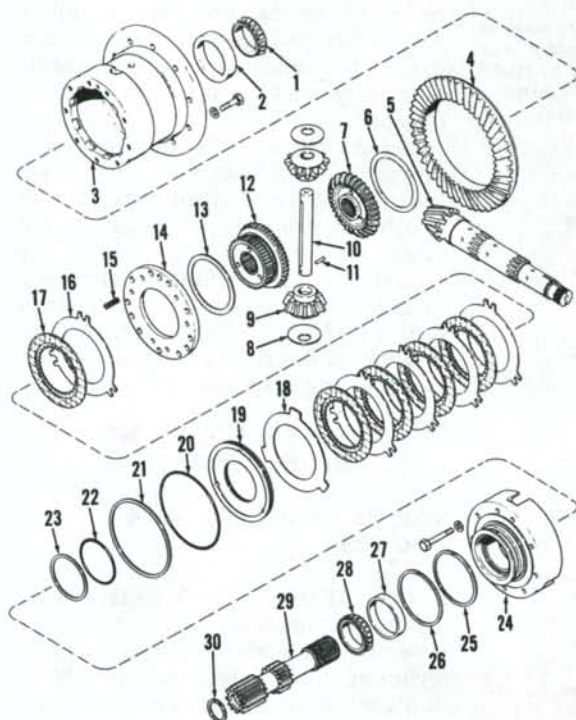

Fig. 188—Exploded view of typical differential and lock clutch assembly used on Models 2090, 2290, 2094 and 2294.
169. OVERHAUL. Remove differential as outlined in paragraph 168. Place assembly on a bench and refer to Fig. 188 as a guide to disassembly. Keep shims with bearing carriers from which they were removed. Shims are available in thicknesses of 0.003, 0.007, 0.010 and 0.020 inch (0.08, 0.18, 0.25 and 0.508 mm) for bearing preload adjustment. Put identification mark on pinion pin (10) and ring gear cage (3) to ensure correct reassembly position. Set assembly on bevel ring gear end and remove two differential lock seal rings (25 and 26). Remove differential lock cage retaining cap screws. Remove differential lock cage (24), spring return plate (18), springs (15) and differential lock clutch plates (16 and 17) from differential cage.
Clean and inspect all parts for wear, nicks and scoring and renew as necessary. Reassemble differential as follows: Install bearing cups (2 and 27—Fig. 188) until they bottom in cage halves (3 and 24). Install bevel ring gear (4) and tighten retaining cap screws with new washers to 220 ft.-lbs. (298 N·m) torque. Install thrust washer (6) and side gear (7) into ring gear cage (3). Install pinion pin (10) through wall of cage while installing pinion gears (9) and thrust washers (8) on pinion pin. Be sure pinion pin is in correct index with ring gear cage. Install new roll pin (11) into pinion pin and ring gear cage until top of roll pin is 1.44 inches (36.58 mm) from top of hole. Lubricate inner and outer piston seal rings (items 20 through 23) with petroleum jelly and install in-